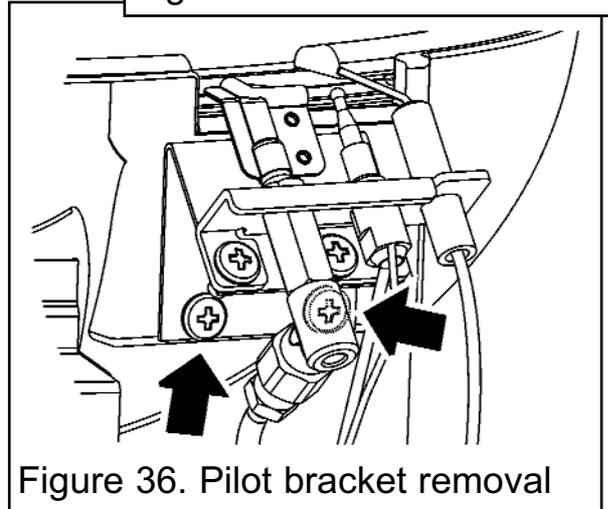

Figure 36. Pilot bracket removal
4. Remove the two screws that secure the pilot bracket to the burner (See figure 36).